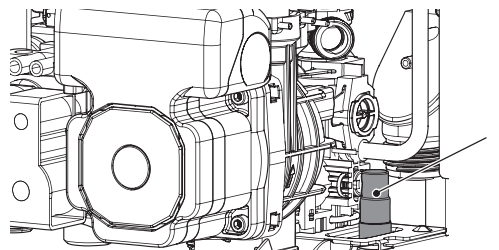

Figure 2.7
- 3 Open the drain tap I (Figure 2.7) until the boiler is completely emptied.